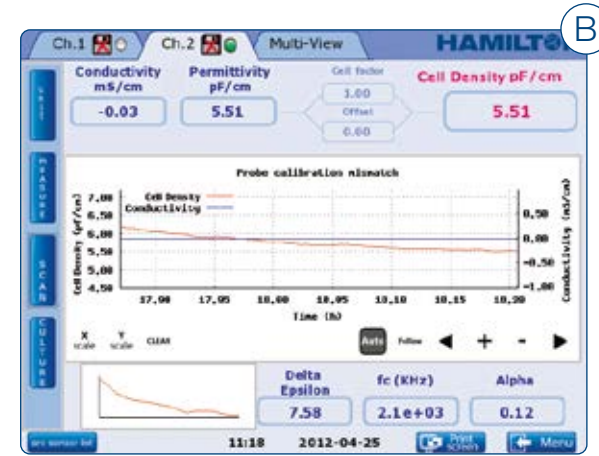

Figure 25: Run Menu when Arc DO (Chart A) and Arc pH (Chart B) sensors are monitored in parallel to Incyte (A). The Frequency Scan has been activated (B).
4. Hand-tighten the connector ring of the Pre-amplifier to ensure a robust and waterproof seal (Figure 25).
It is possible to record and plot Arc sensor measurements in parallel to cell density (Figure 25). That means in addition to the wired Incyte or Dencytee Unit, each Channel can also concurrently support two Arc Sensors. Cell density is monitored on Chart A. Another measurement may be shown additionally on Chart A (e.g. Arc pH, Arc DO or the conductivity measurement of Incyte). The remaining measurements will appear on Chart B. Chart A is shown as the Main Graph per default.